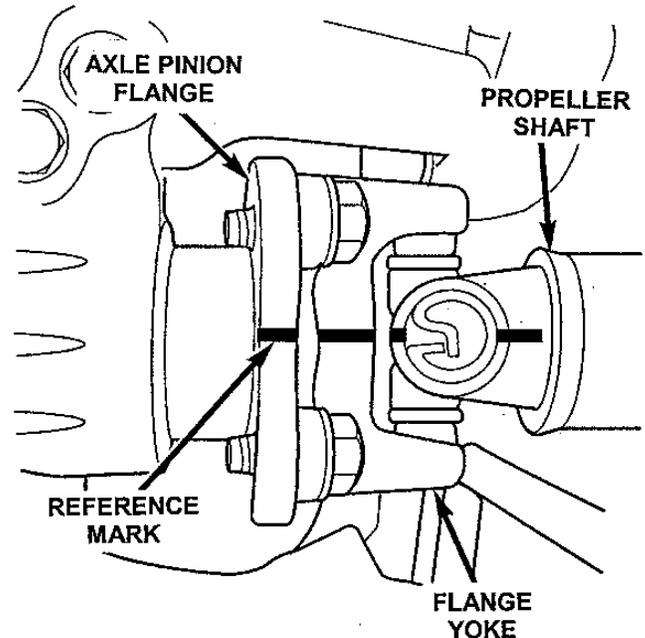

Figure 3 – Rear Propeller Shaft Shown
5. Apply reference marks and remove the rear propeller shaft from the vehicle (Figure 3).
- 6. On vehicles equipped with four wheel drive**, apply reference marks and disconnect the front propeller shaft from the transfer case at the companion flange (Figure 3).